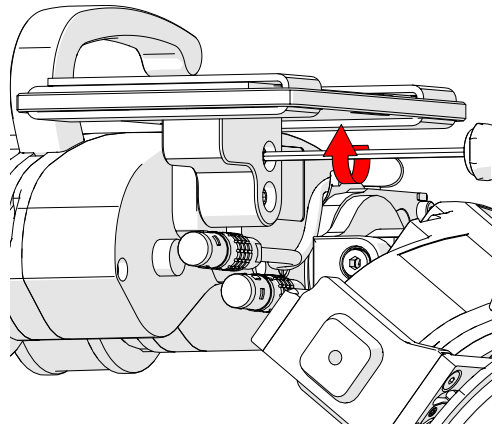

Fig. 268 - Tighten screws
3. Tighten the two backpack screws using the supplied 3 mm hex driver (Fig. 268).